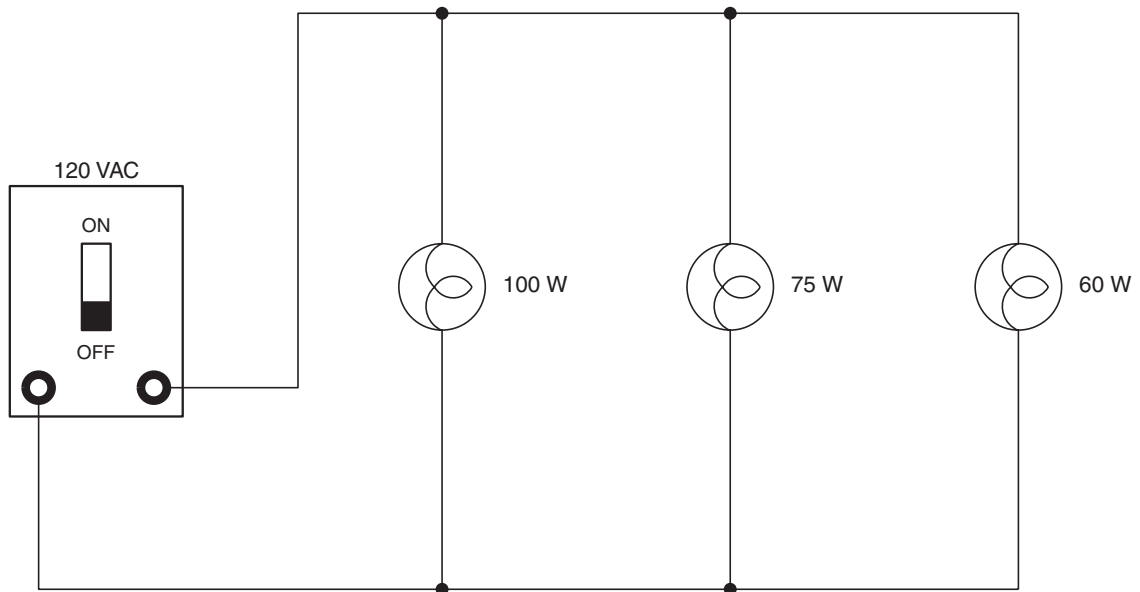

Figure 4-5 Connecting the second parallel circuit.
21. Replace the 40 watt lamp with a 75 watt lamp (Figure 4-5).